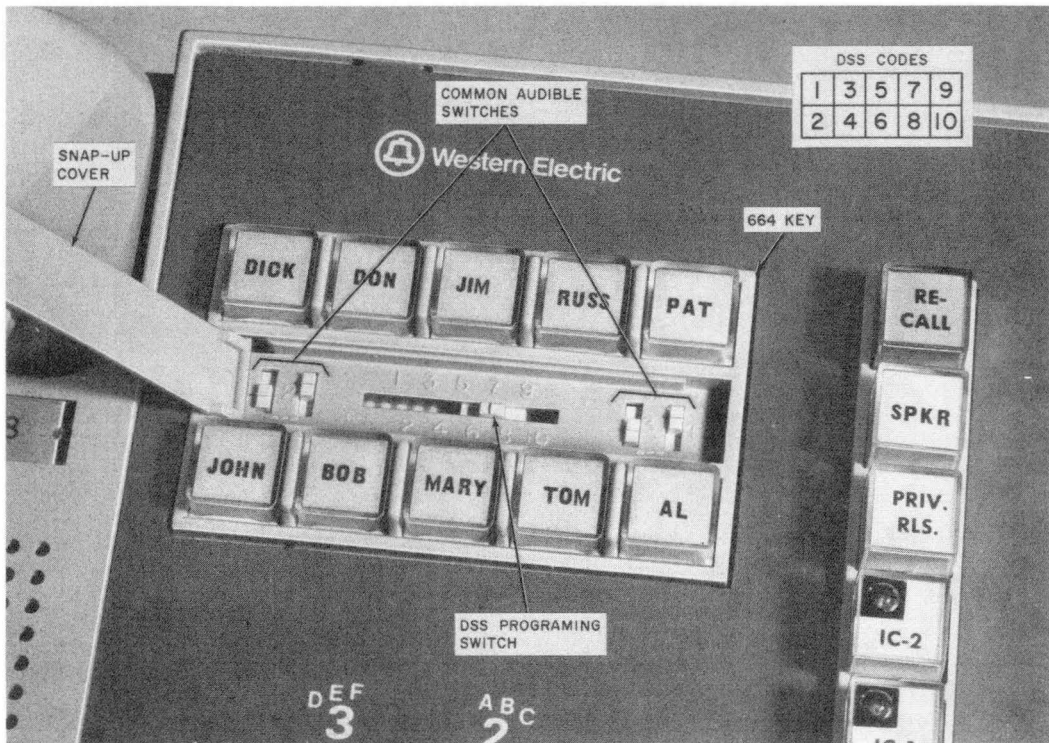

Fig. 7—DSS Key
**3.09** The DSS programming switch and common audible switches (Fig. 7) must be set as required at each station as follows:
- (1) Raise cover either by pressing on the extreme left end to tilt the cover or pry up the right end of the cover using a fingernail.
- (2) Determine the DSS code for that station and slide the program switch to that number. For example, Fig. 7 shows the station designated as DSS code 7.